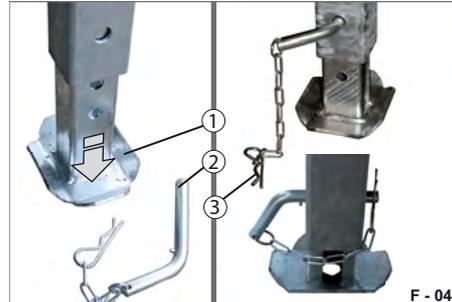

Fig. 64 Adjusting levelling foot
► Remove the spring pin (Fig. 64/3) from the socket pin (Fig. 64/2).
► Remove the socket pin (Fig. 64/2).
► Adjust the levelling foot (Fig. 64/1) downwards until it can lock into another bore hole.
- ▶ Tilt the levelling foot (Fig. 64/1) up and secure it with the socket pin (Fig. 64/2) and spring pin (Fig. 64/3).